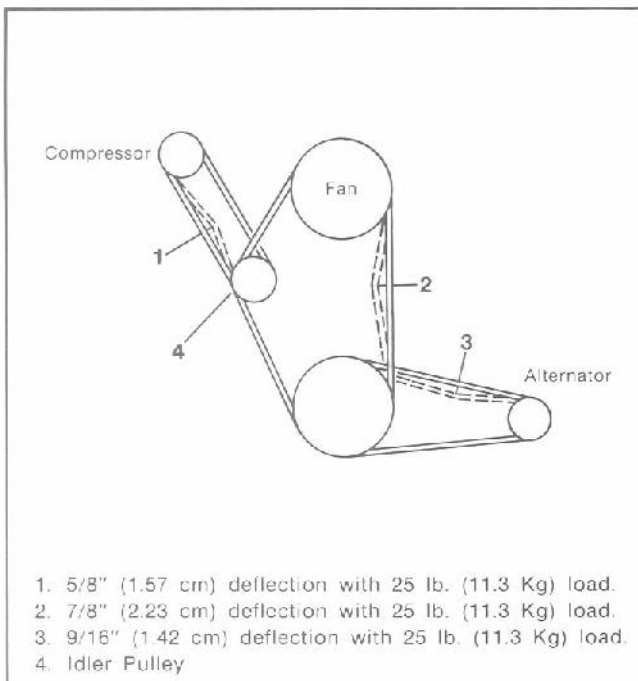

Figure 47:
Belt Tensions (Fig. 47)
2. Apply a 25 lb. (10 Kg) force perpendicular to the belt, midway between the driver and driven pulleys. Belt deflection should be as shown (Fig. 47).
3. Adjust alternator and compressor belt as indicated in Fig. 47.